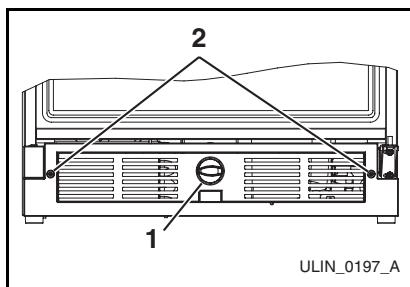

Figure 7
2. Remove the control knob (Figure 7, 1) by pulling it straight out, away from grille.
3. Remove two screws from grille (Figure 7, 2) and save.
7. Reinstall the control knob (Figure 7, 1).